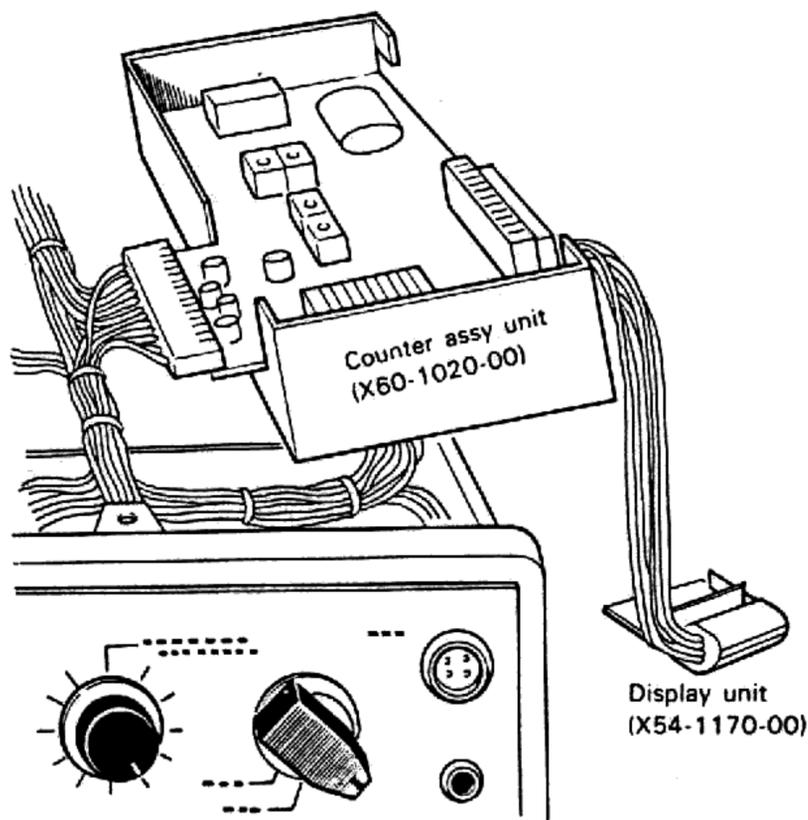

Fig. 16
- 2) When checking each voltage, attach the printed circuit boards, as shown in Fig. 16.